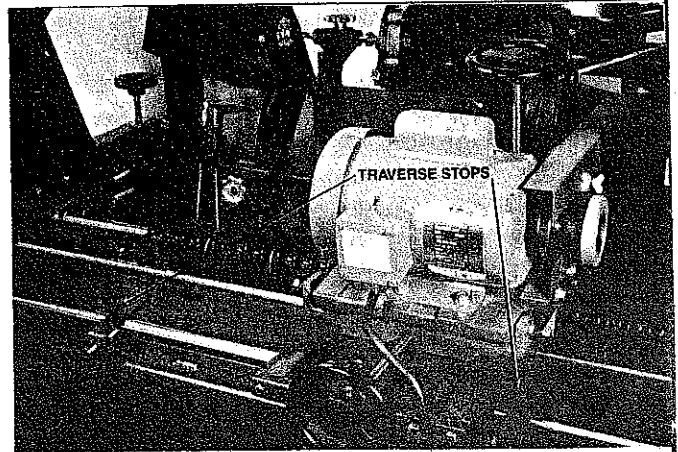

FIG. 86
- K. If the grinding wheel is only making contact in one position of the reel, adjust the traverse stop so the carriage traverses slightly further than the contacted area. As you in-feed and wheel makes full contact in this area move traverse stop away 6" to 8". This will speed up the grinding process of getting a cone shaped reel into a perfect cylinder. (See FIG. 86)